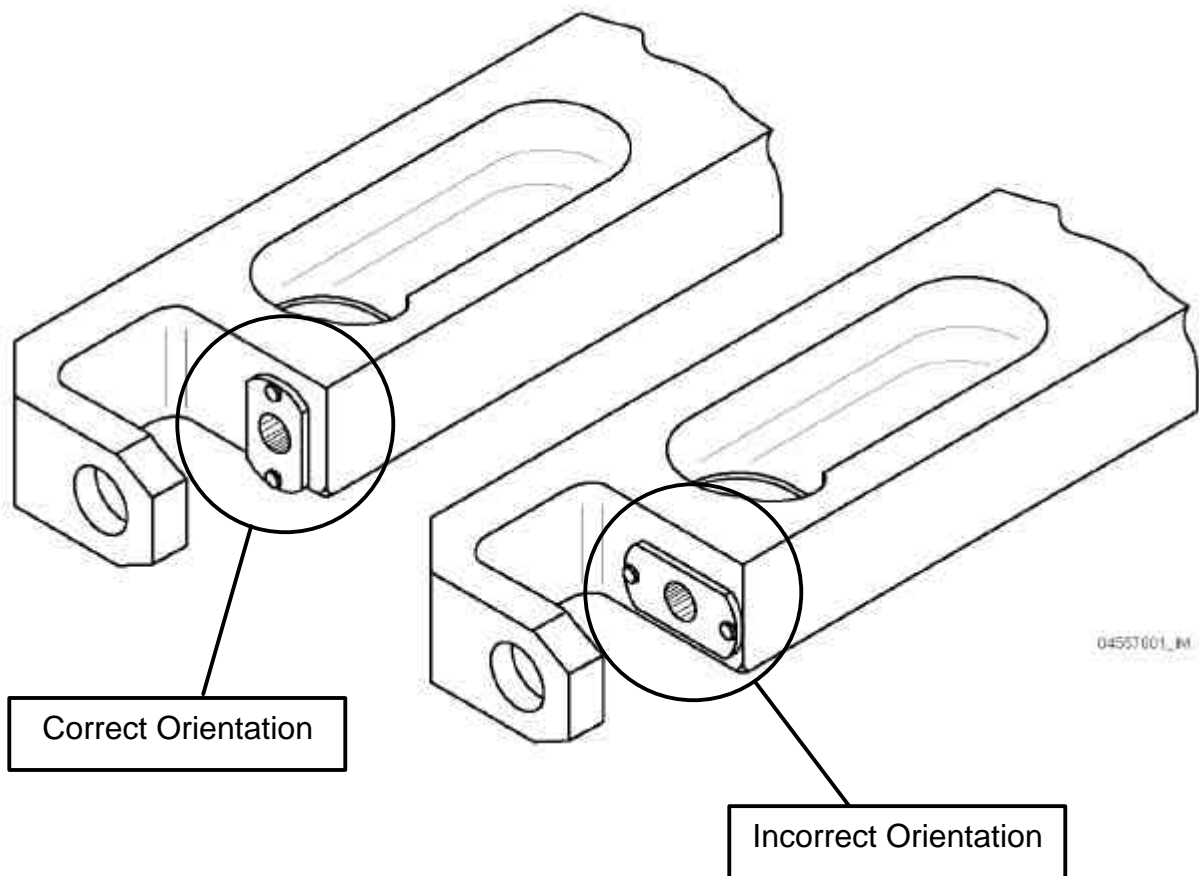

Figure 1
2. For each horn found to be within the serial number block, verify position of bushing using Figure 1. If bushing is found properly positioned, add a letter "R" at the end of the serial number, using a vibrating stylus (For example: TI-113R).
3. If bushing is found incorrectly positioned in accordance with Figure 1, remove discrepant pitch horns, mating pitch links and attaching bolts (20-057-5-14D & NAS6605H20) and return to Bell Helicopter for credit. Remove any chordwise